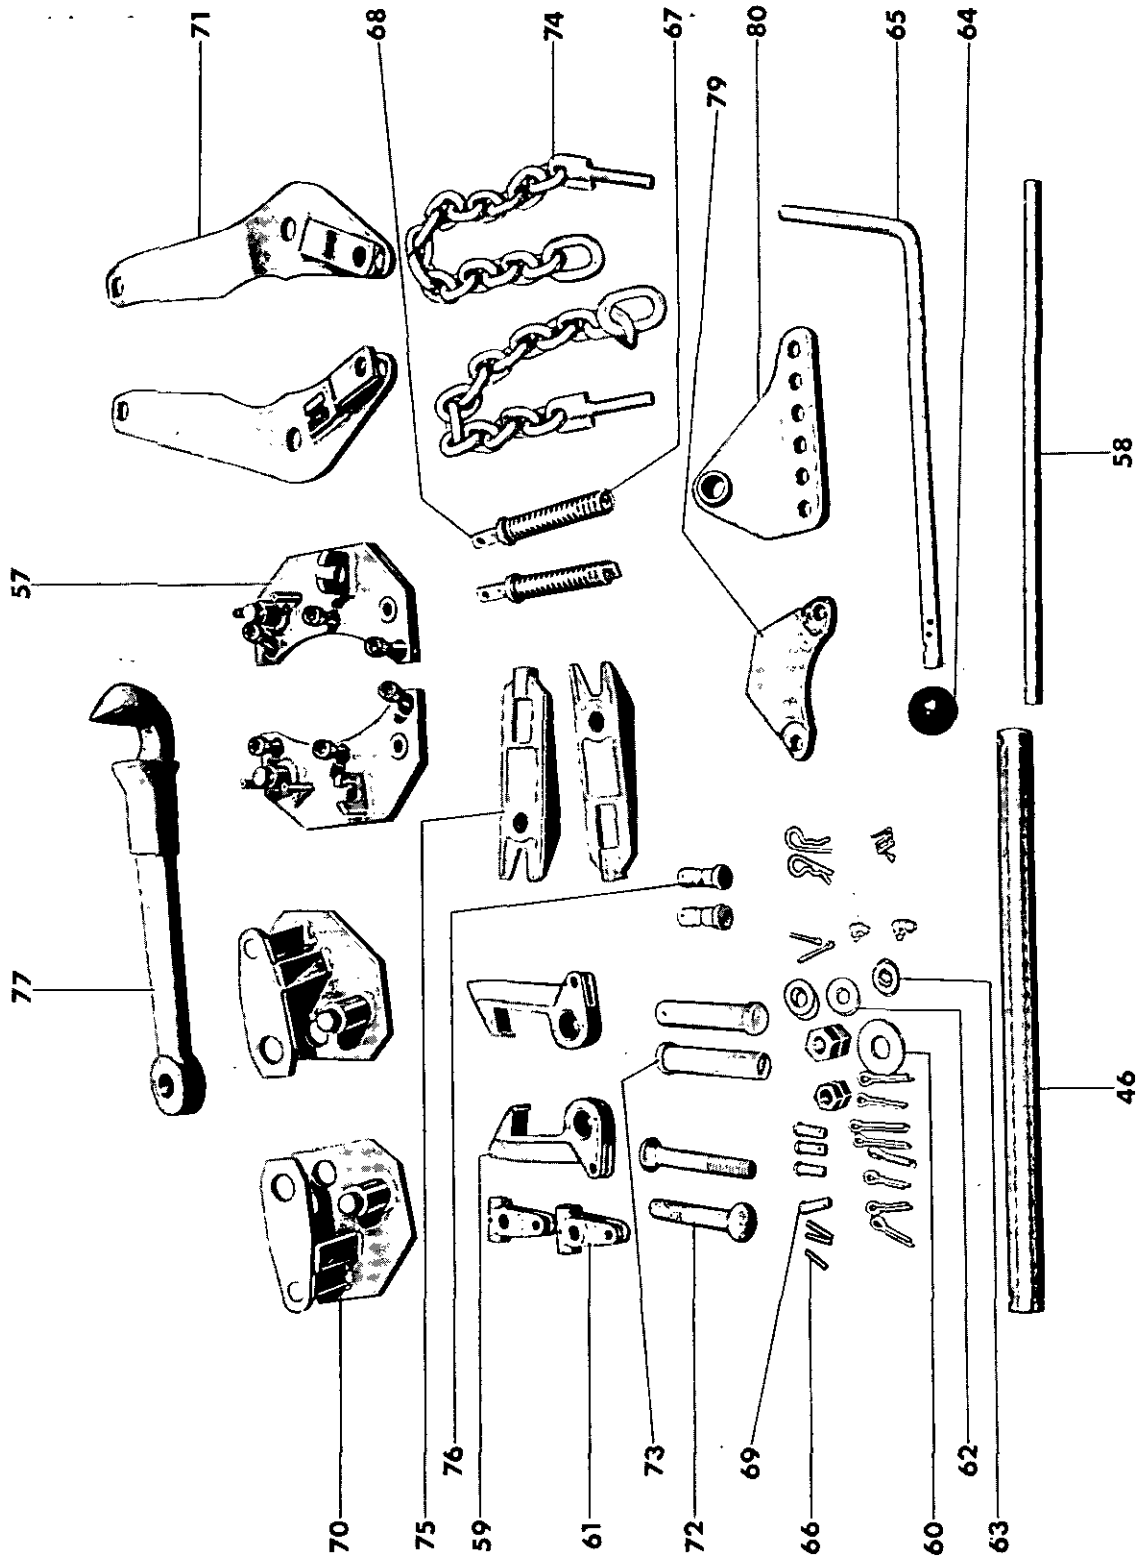

FIG. 19
1. Unpack the kit and check the contents against the packing list and figure 19.